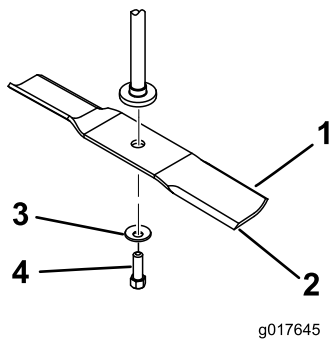

Figure 52
Hold the blade end using a rag or thickly-padded glove. Remove the blade bolt, curved washer, and blade from the spindle shaft (Figure 52).
1. Install the blade onto the spindle shaft (Figure 52).
2. Install the curved washer (cupped side toward the blade) and the blade bolt (Figure 52).